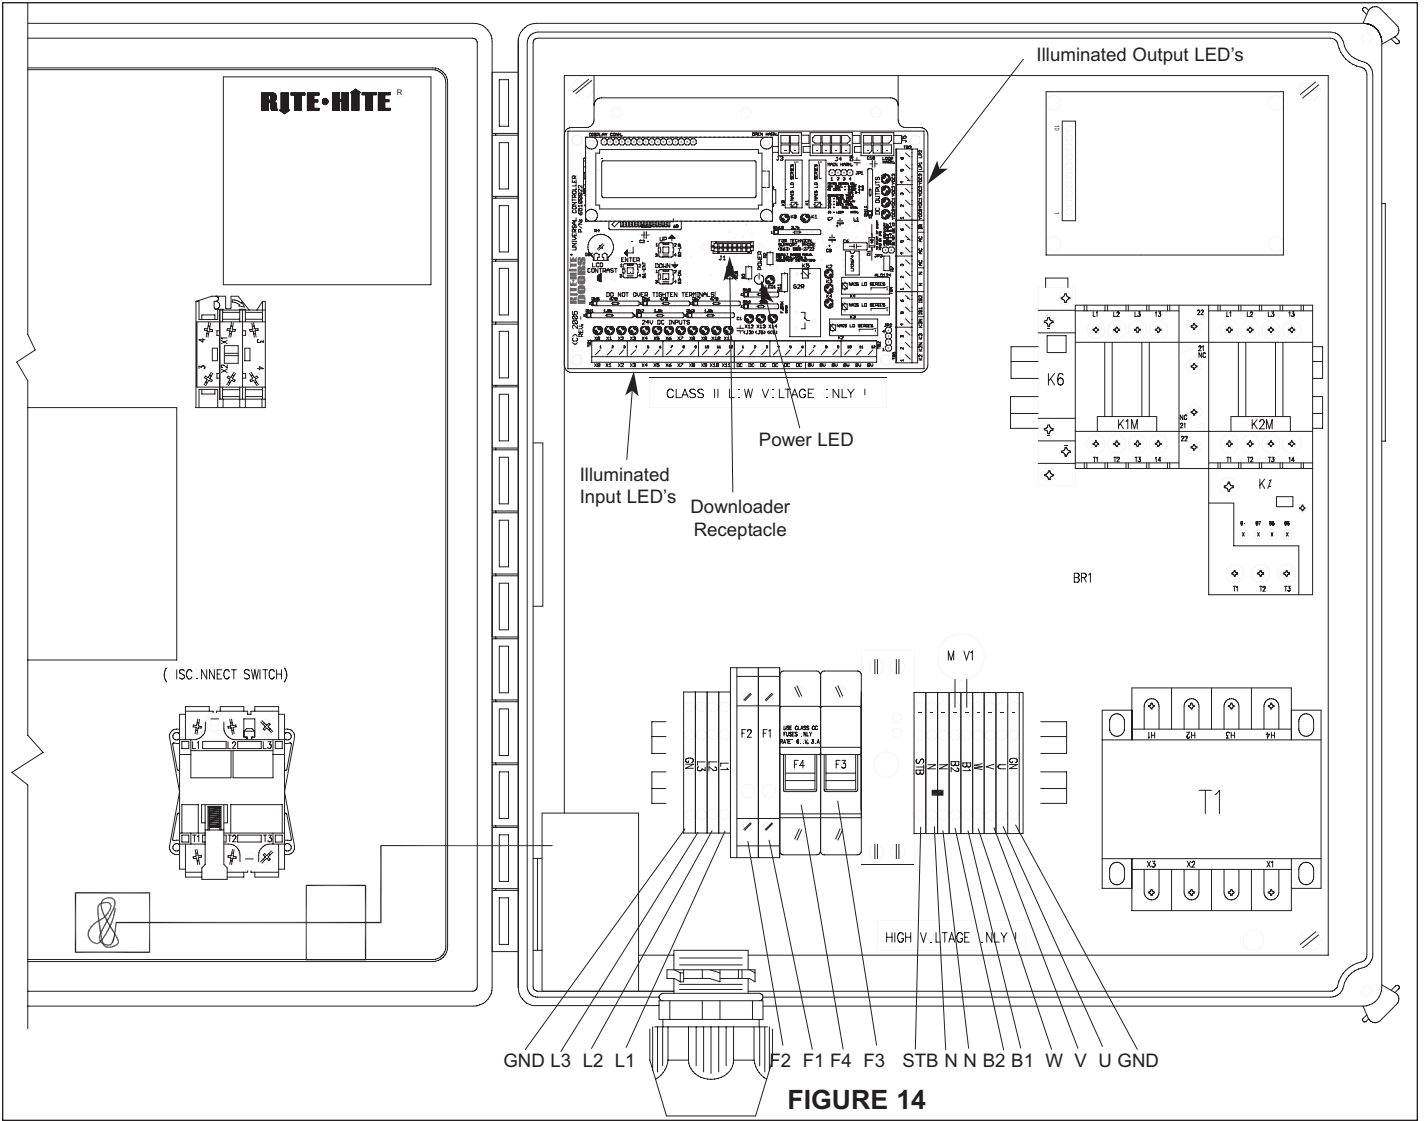

FIGURE 14
1. Turn on the main power supply. Confirm that the correct line voltage is at terminals L1, L2 and L3, **Figure 14**.
2. Make sure that fuses F1, F2, F3, and F4 are installed, **Figure 14**.
5. Momentarily press the green OPEN button and observe the door. If the door jogs downward, lockout and tag the main electrical power and reverse the motor leads at terminals V and W, **Figure 14**. Reconnect the power and verify the correct door movement.